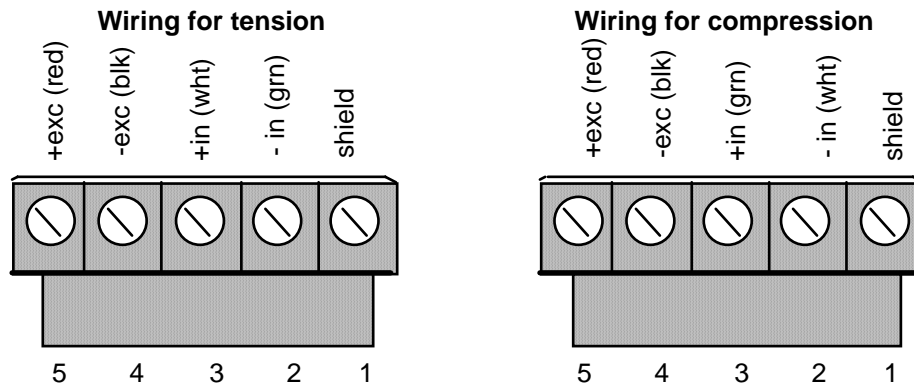

Figure 2-7. Wiring connections for strain links
10. Determine the correct wiring connections for your strain links. The way you connect the wires depends on whether you mounted the strain links to read tension or compression forces on the press. Each wiring scheme is shown in Figure 2-7.